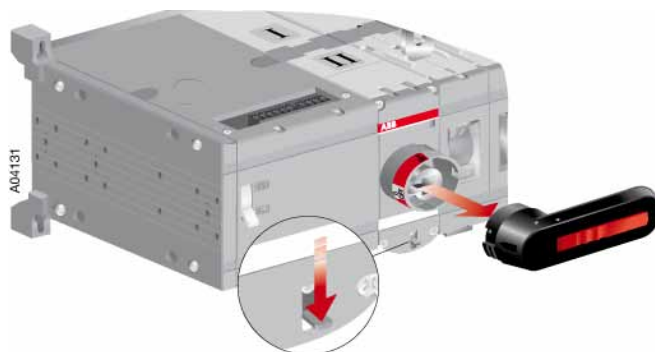

Figure 6.1 Releasing the handle
1. Release the handle from the switch panel by pressing down the locking latch under the switch panel and pulling the handle off, see Figure 6.1.